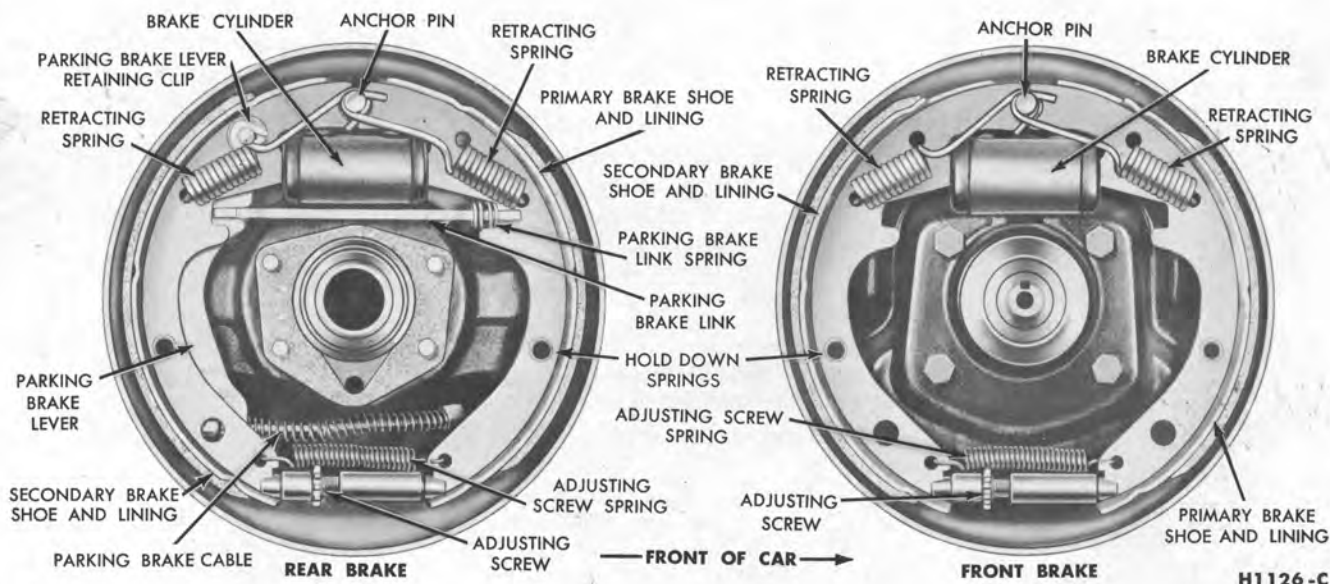

FIG. 6—Front and Rear Brakes
2. Disconnect the brake shoe retracting springs (Fig. 5) and hold down springs (Fig. 6).
On the rear brakes, disconnect the secondary brake shoe from the parking brake lever by removing the retaining clip (Fig. 6). Remove the parking brake lever link and spring from between the lever and the primary shoe, then remove the brake shoes from the carrier plate.
3. Insert the brake adjusting screw (Fig. 6) between the lower ends of the brake shoes so that the star wheel will be directly opposite the carrier plate adjusting hole. Install the spring at the lower end of the shoes.
On rear brakes, engage the secondary shoe with the pin on the parking brake lever and secure with the retaining clip (Fig. 6). Install the parking brake link and spring between the lever and the primary shoe.